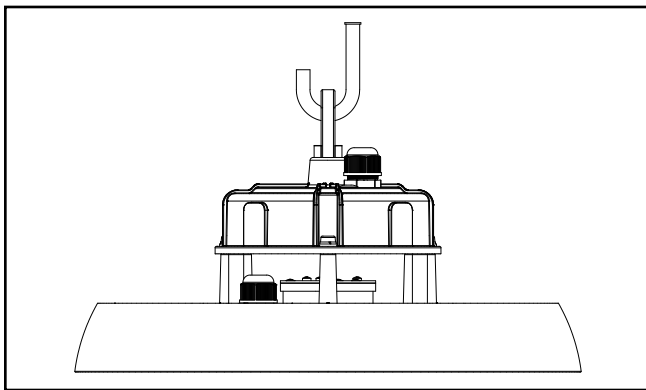

Figure 3.
3. Hang fixture to structure (by others). (Figure 3.)